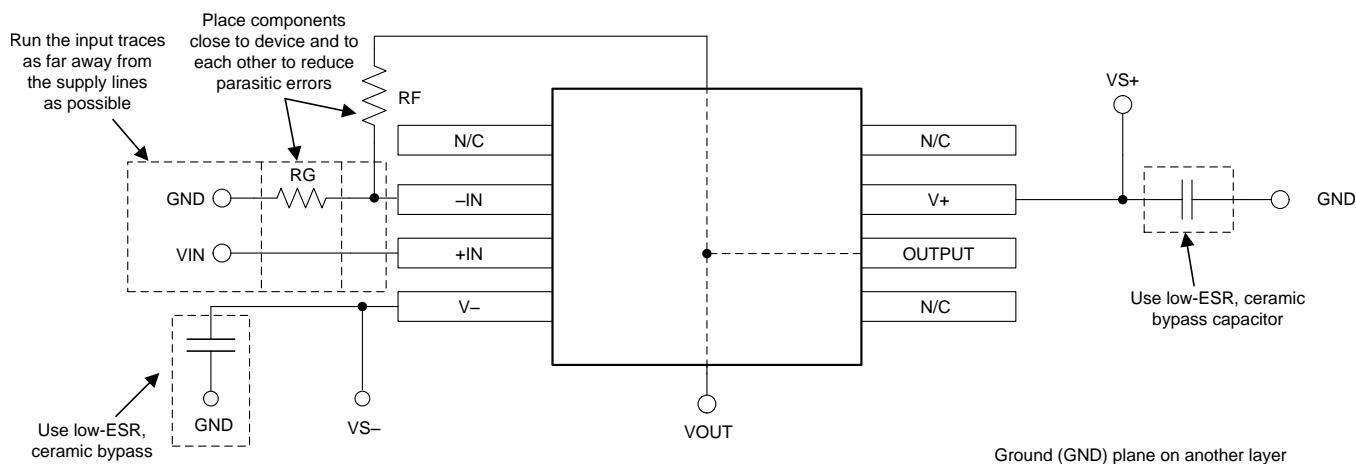

Figure 52. Operational Amplifier Board Layout for Noninverting Configuration
- Place the external components as close to the device as possible. As illustrated in Figure 52, keeping RF and RG close to the inverting input minimizes parasitic capacitance.